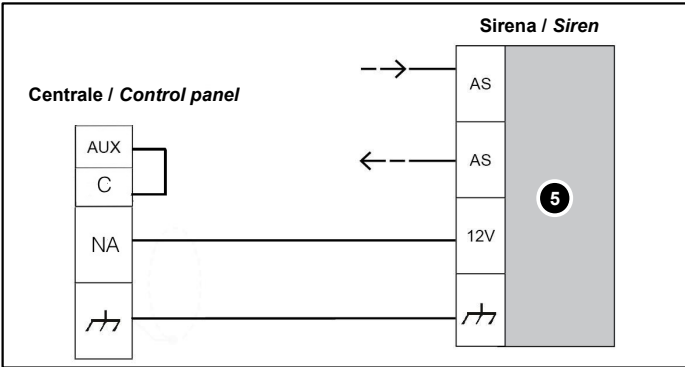

Fig. 3 - Collegamento 8024-ISS002 / 8024-ISS002 connection
2.4.1 8024-ISS002 electrical connection**Perform the following operations (fig. 3):**